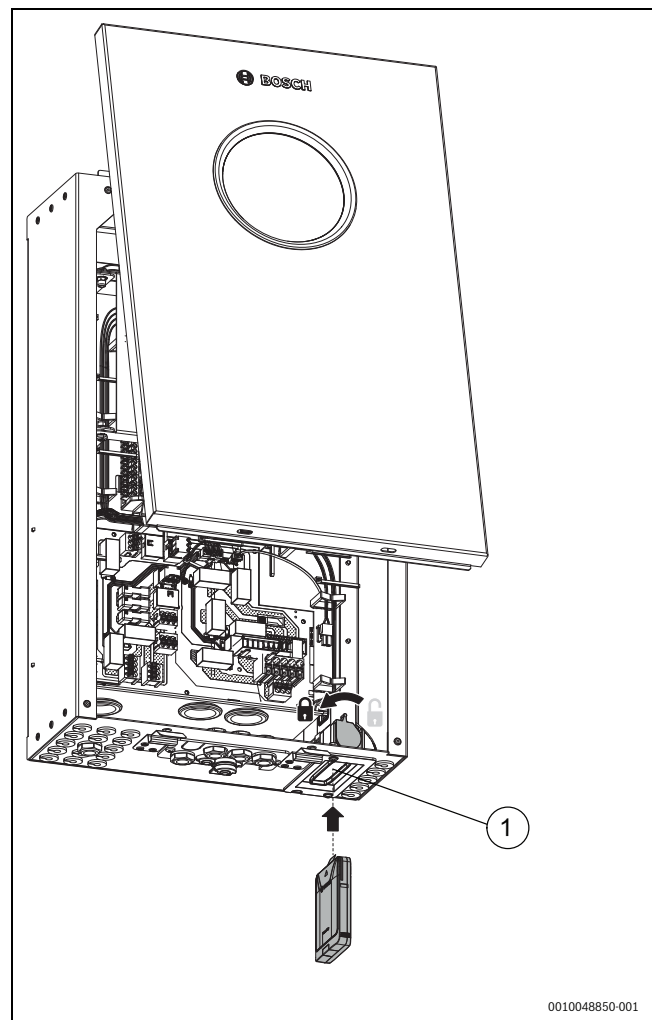

Fig. 20 Connect-Key K30RF placement
- ▶ Place the module in the holder (→[1], figure 20). A LED will flash when properly inserted.